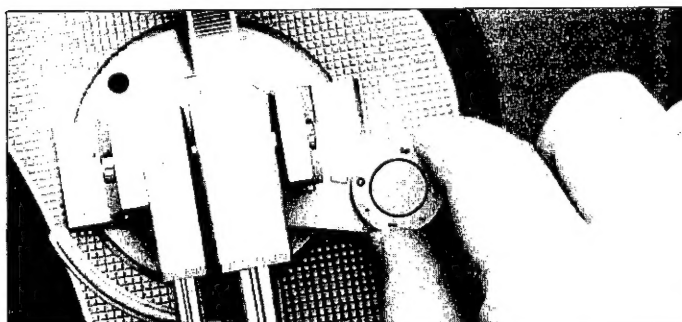

Figure 9
1. Adjust the antiskating control to the "0" position (See Figure 9).